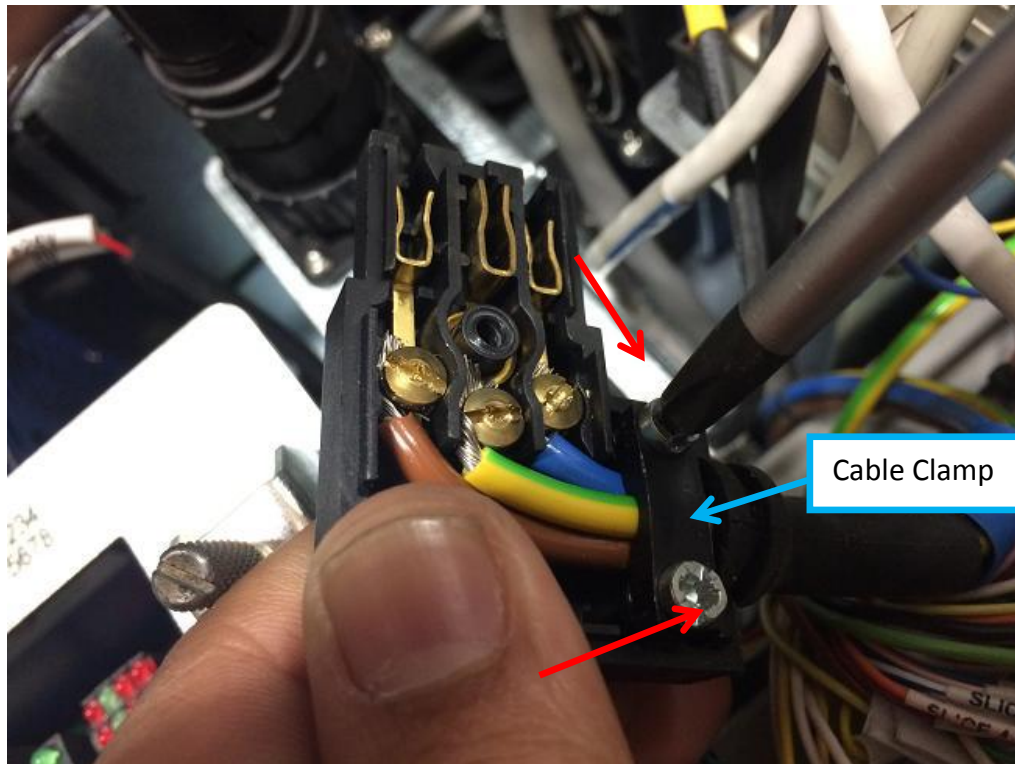

Figure 15
20. Loosen 2 x Philip screws and remove cable clamp as Figure 15